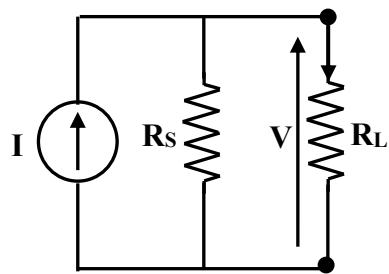

Figure 1
1. The current source in Figure 1 has $I = 12 \text{ A}$, $R_s = 2 \Omega$ and $R_L = 6 \Omega$. Find the values of V_L and I_L for this circuit. Convert the source into an equivalent voltage source and recalculate V_L and I_L .